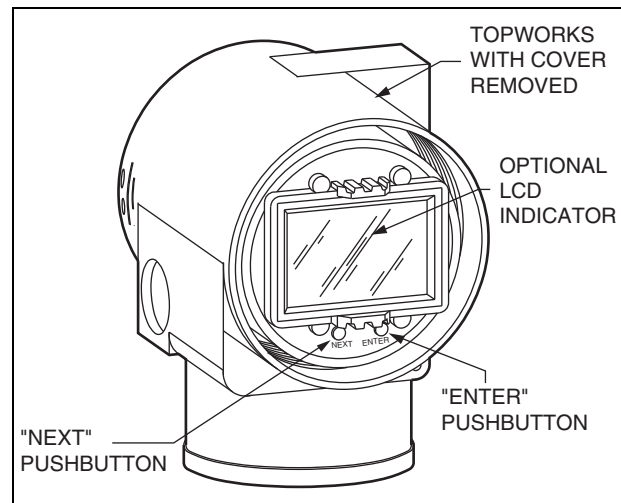

Figure 13. LCD Indicator with On-Board Pushbuttons
**Option -L1: Optional Liquid Crystal Display (LCD) Indicator with On-Board Pushbuttons (Figure 13)**